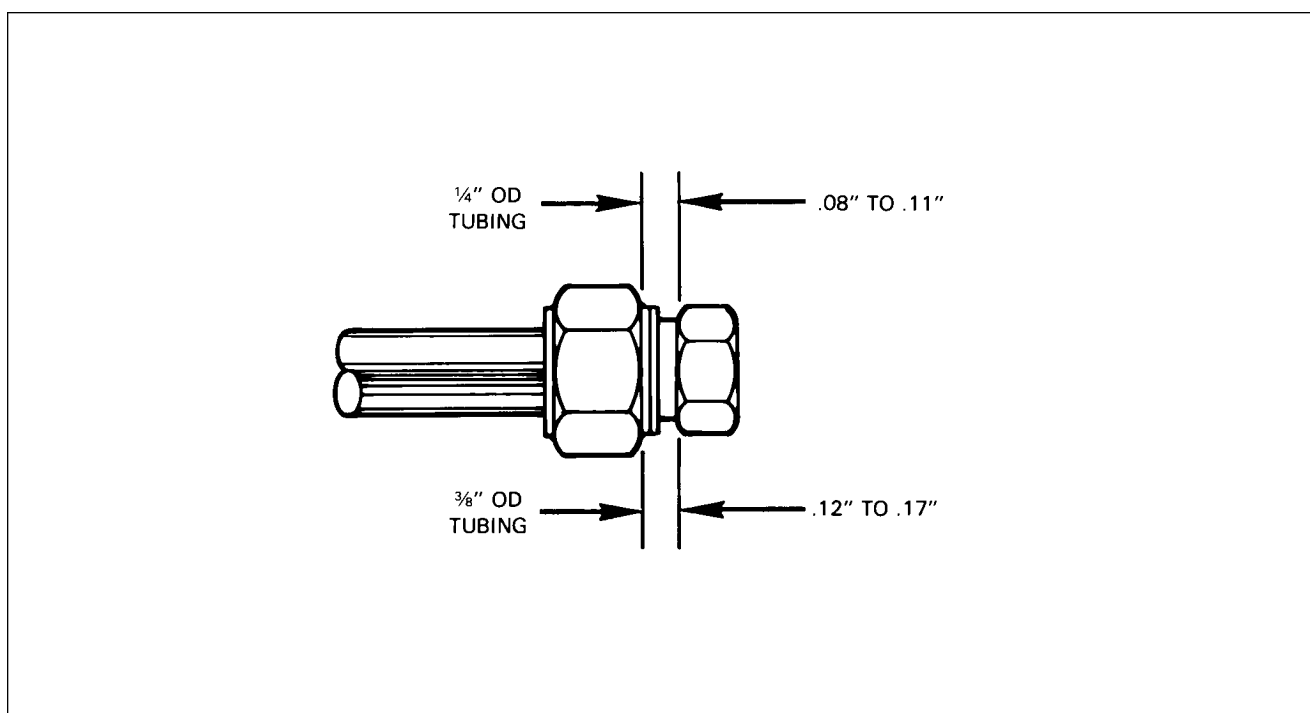

Figure 28-7. Tolerances; Union Nut and Tubing Nut
5. After torquing each fitting, measure the distance between the face of the union nut and the face of the tubing nut. Refer to Figure 28-7 for tolerances.